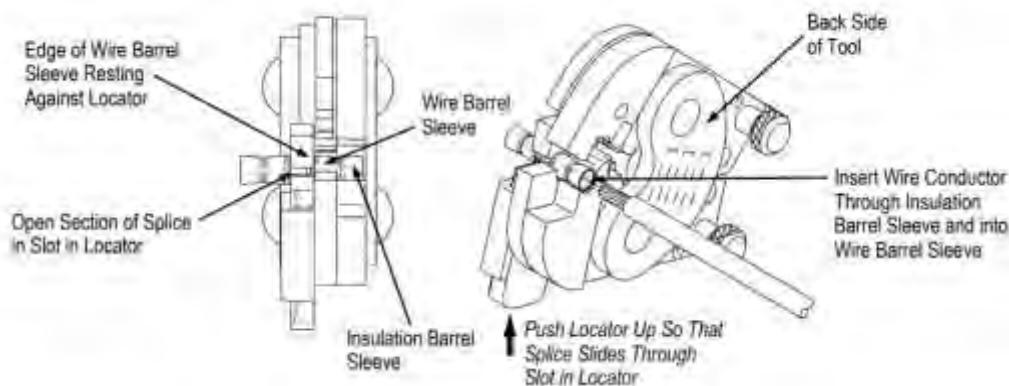

Figure 216
- Push the locator up and, from the FRONT side of the tool, insert the terminal or splice wire barrel sleeve into the crimping jaws making sure that the edge of the wire barrel sleeve rests against the locator, as shown in Figure 216.